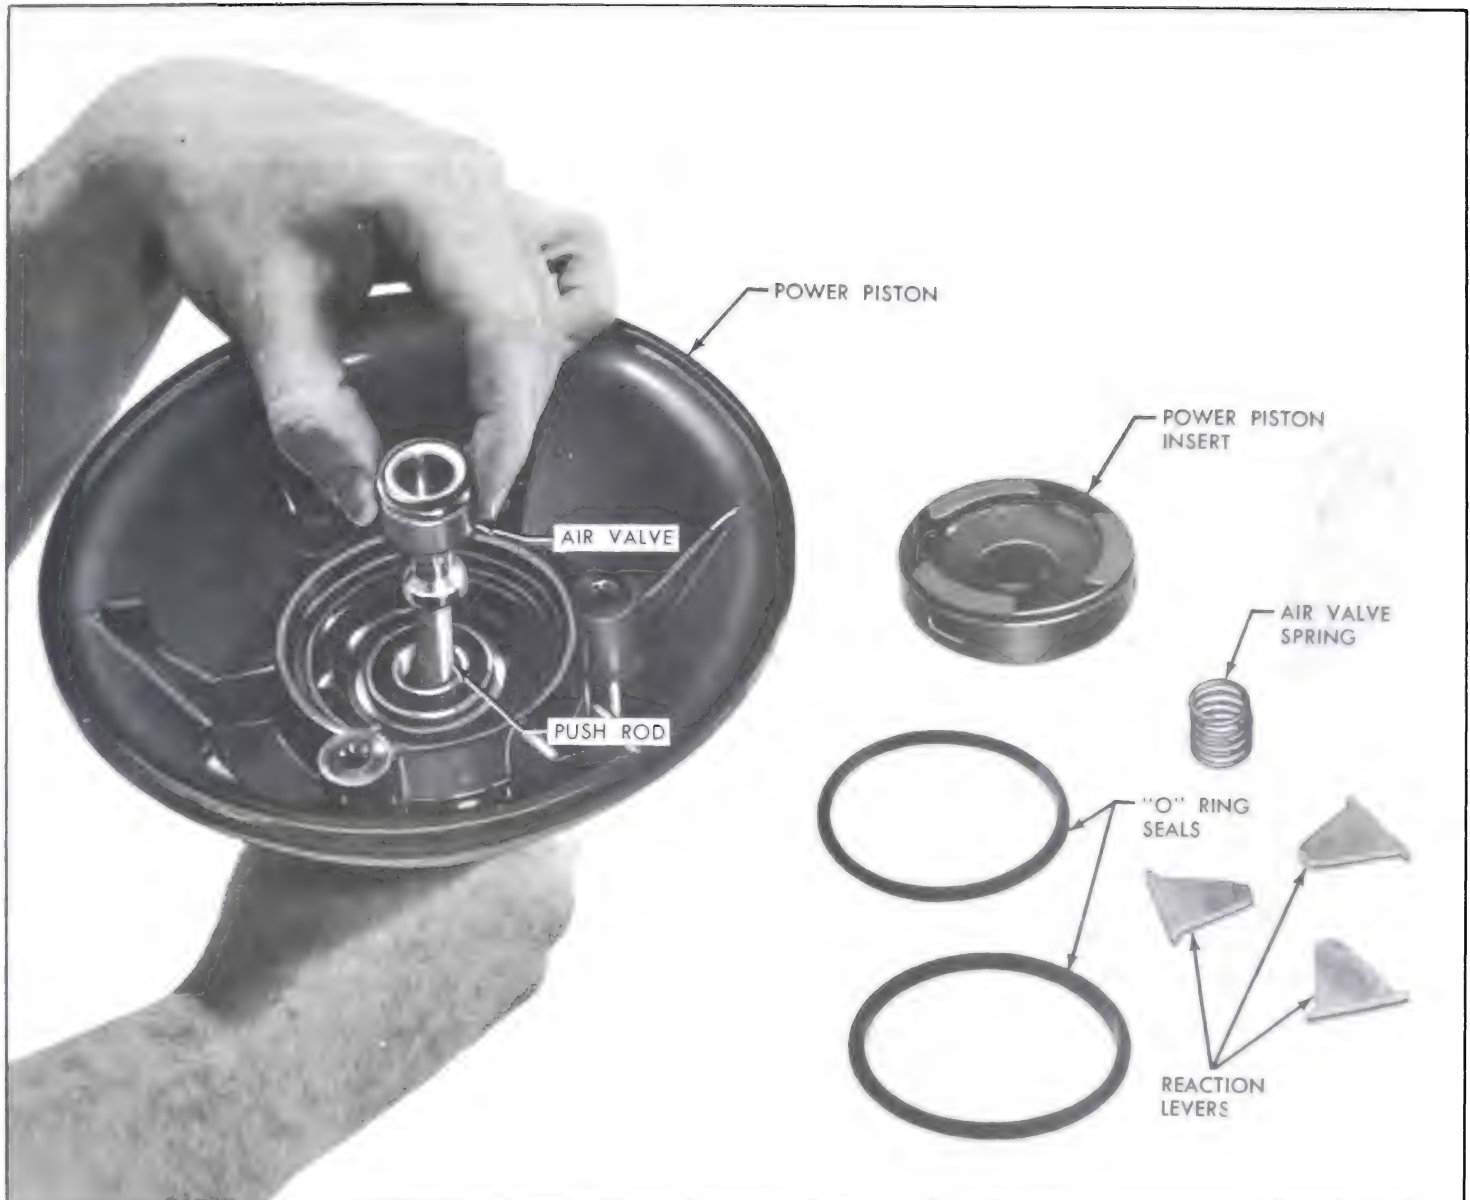

Figure 9-24—Removing Power Piston Parts
11. Remove the three (3) reaction levers from their seats in the power piston insert. Remove the air valve spring from the counterbore of the air valve. The push rod air valve assembly can be pushed through the power piston from the push rod end. The snubber and "O" ring can now be removed from the grooves in the air valve. See Figure 9-24.
12. Remove the power piston insert from the center of the piston. From the two (2) grooves in the O.D. of the insert, remove the two (2) "O" ring seals. See Figure 9-24.